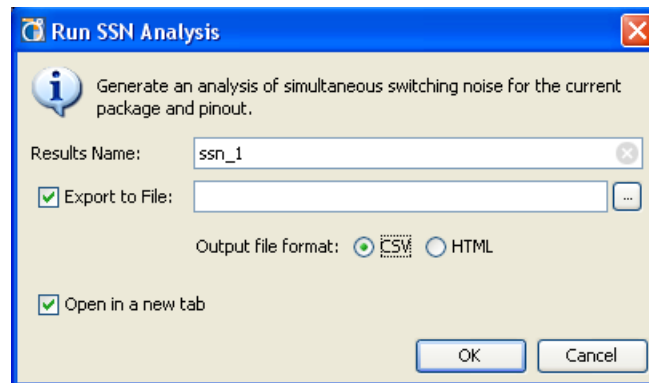

Figure 8-33: Run SSN Analysis Dialog Box
1. In the Flow Navigator, or from the Tools menu, select **Run Noise Analysis**. The Run SSN Analysis dialog box opens, as shown in Figure 8-33.